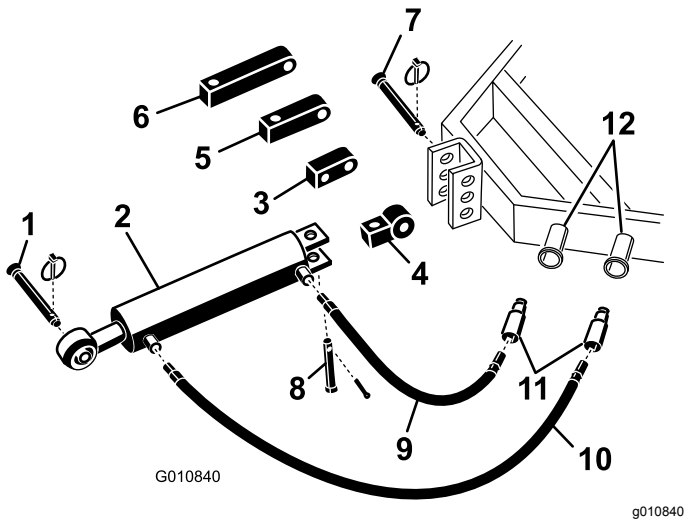

Figure 5
- Secure the connecting link end of the hydraulic top link to the traction unit with the pins supplied with the traction unit (Figure 5).
Note: If you must position the hydraulic cylinder with the ports facing upward, use the rotational block instead of the standard mounting block to reposition the cylinder (Figure 5). You may use a 90° hydraulic fitting instead of the rotational block (90° fittings are not included).
- Remove the cotter pin and pin securing the standard connecting link to the cylinder (Figure 5). Remove the connecting link from the cylinder.
- B. Install the rotational block to the cylinder with the pins previously removed (Figure 5).
- Connect the long hydraulic hose—106 cm (3-1/2 ft) to the hydraulic top link port that is closest to the aerator Figure 5. Apply pipe-thread sealing tape or compound to the hose threads to prevent any leaks.
- Connect the short hydraulic hose—76 cm (2-1/2 ft) to the hydraulic top link port that is closest to the traction unit (Figure 5). Apply pipe-thread sealing tape or compound to the hose threads to prevent any leaks.
connect the cylinder to the traction unit (Figure 5).
- A. Remove the cotter pin and pin securing the standard connecting link to the cylinder (Figure 5). Remove the connecting link from the cylinder.
- B. Install the required length extension block to the cylinder with the pins previously removed (Figure 5).